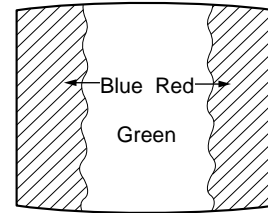

Fig. 3-2
5. Move the deflection yoke backward, and adjust the purity control so that the green is in the center and blue and red are at the sides, evenly. (See Fig. 3-2.)